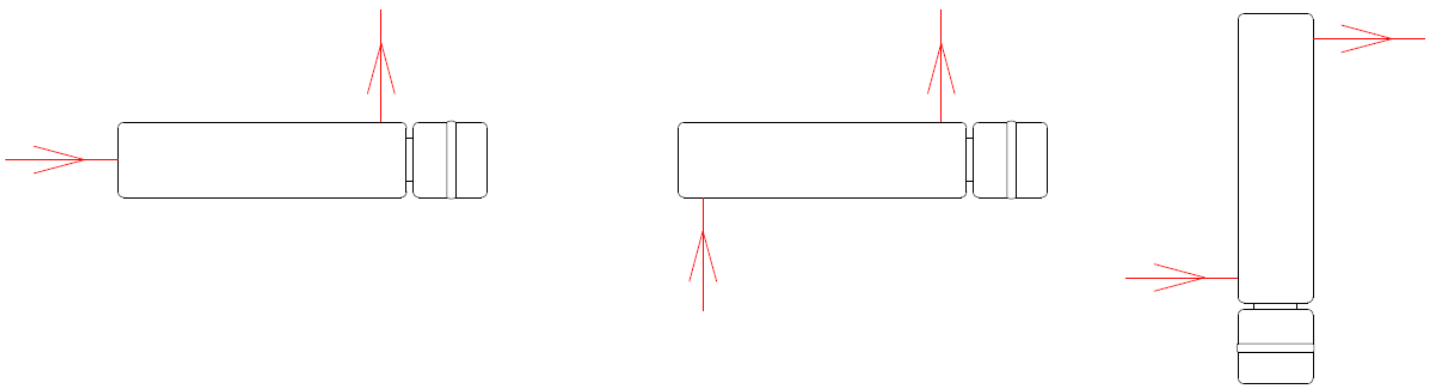

Figure 3
Here are the recommended hydraulic connection options with an indication of the flow direction of the heating medium (Figure 3). With vertical installation, only a position with the wiring cover facing down is possible in order to bleed the entire volume of the bivalent source.
- Mounting positions – horizontal or vertical from under (Chapter 2.1, Figure 3).